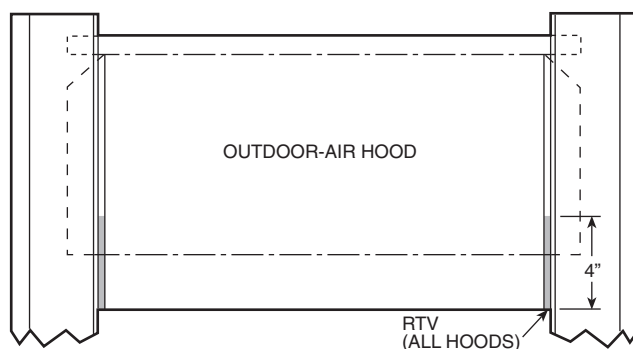

Fig. 46 — Outdoor-Air and Economizer Hood
5. Apply a bead of RTV or similar sealant to corner of each hood at pivot point to prevent water leaks. See Fig. 46.
5. Apply a bead of RTV or similar sealant to corner of economizer hood at pivot point to prevent water leaks. (See Fig. 46.)
4. Apply a bead of RTV or similar sealant to corner of economizer hood at pivot point to prevent water leaks. (See Fig. 46.)